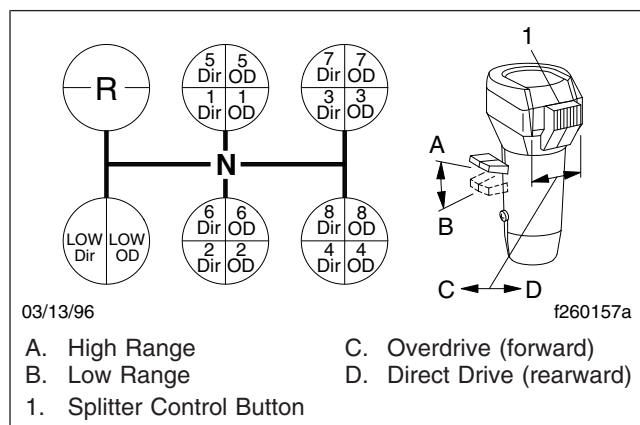

Fig. 13.2, Eaton Fuller 18-Speed Transmission Shift Pattern
2. Position the range-preselection lever down, into low range. See Fig. 13.2.
3. Make sure the splitter-control button is in the direct (rearward) position. See Fig. 13.2.
Shift upward from low overdrive to 1st direct by first moving the splitter-control button into the direct (rearward) position (Fig. 13.2). Move the shift lever, double-clutching, to the 1st gear position.
To shift from 5th direct to 5th overdrive, move the splitter-control button (Fig. 13.2) into the overdrive (forward) position, then immediately release the accelerator. Press and release the clutch pedal. After releasing the clutch, accelerate again.